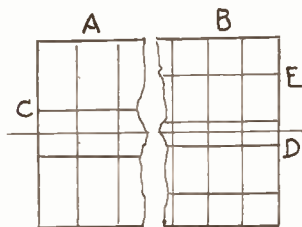

Fig. 1
Dealing with a house nameplate, as an example, cut a strip of paper about as long as the plate, and the same width. Down the centre draw two lines, $\frac{1}{4}$ in. apart, that being the length of the transfer letters to be used, as at (A) in Fig. 1. Divide into $\frac{1}{2}$ in. divisions by cross lines, and pencil in the name chosen, one letter in each division. An exception to this rule may be made with letters (I) and (J), these being much narrower. A space of $\frac{1}{2}$ in. will suffice.
If the name consists of two or more words, and a double line of lettering is necessary, mark out the guide strips as in (B), Fig. 1. Here two lines are drawn down the centre $\frac{1}{4}$ in. apart, and above and below these lines, $\frac{1}{2}$ in. apart for the lettering. Divide as before into $\frac{1}{2}$ in. vertical divisions. The bottom line of lettering must be affixed first, so cut along line (D) and remove the surplus below it. Position the strip on the plate as before, and fix on the letters. Then cut the second and top line of letters to complete.